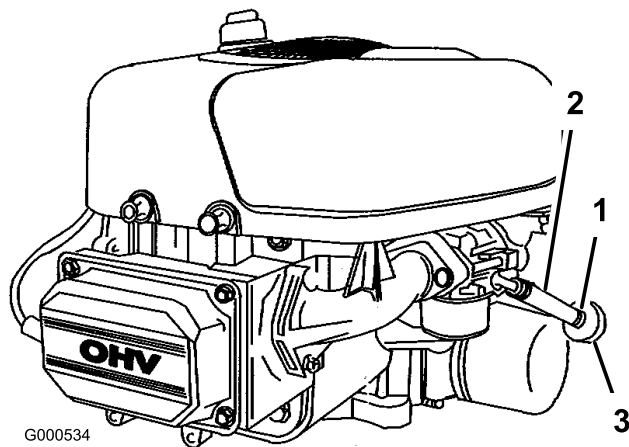

Figure 40
- Loosen the hose clamp at the fuel filter and slide it up the fuel line away from the fuel filter (Figure 40).
- Pull the fuel line off of the fuel filter (Figure 40).
- Install the fuel line onto the fuel filter. Slide the hose clamp close to the fuel filter to secure the fuel line (Figure 40).
- Squeeze the ends of the hose clamps together and slide them away from the filter (Figure 40).
- Install a new filter and move the hose clamps close to the filter (Figure 40).